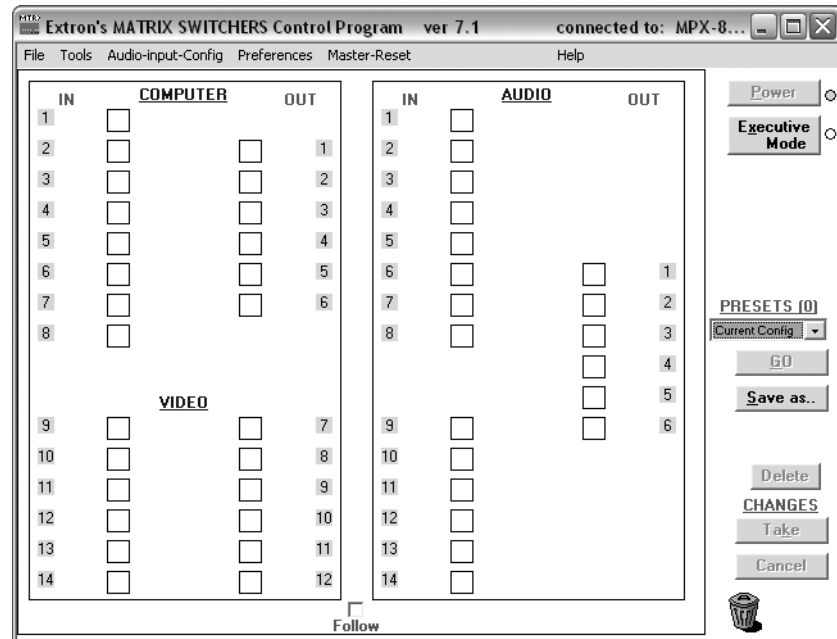
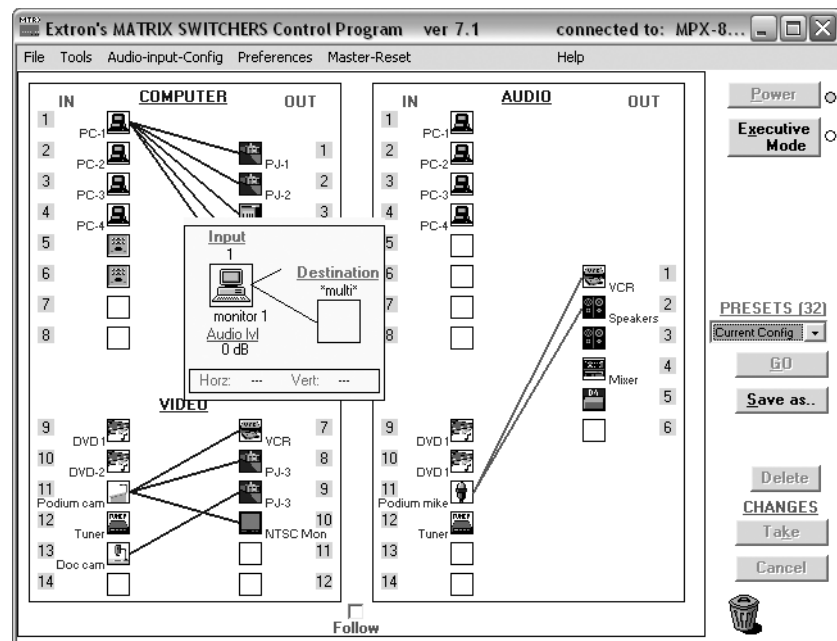

Figure 5-3 — Extron Matrix Switcher Control Program window (blank)
Figure 5-4 — Sample program window (complete)
4. The Extron Matrix Switcher Control Program window (figure 5-3 and figure 5-4) appears. The window displays the current configuration of the attached matrix.
- To quickly display a specific input or output's status, position the cursor over that device in the control program window. A pop-up opens that shows that device's ties and audio level. For outputs in the computer video group only, the pop-up also shows the frequency of the video signal tied to that device. See the inset box in figure 5-4.